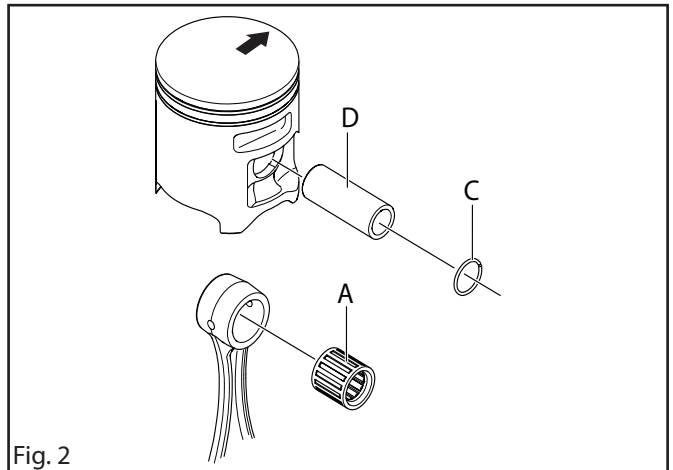

Fig. 2
7. Remove the needle bearing from the connecting rod (A). See figure 2.